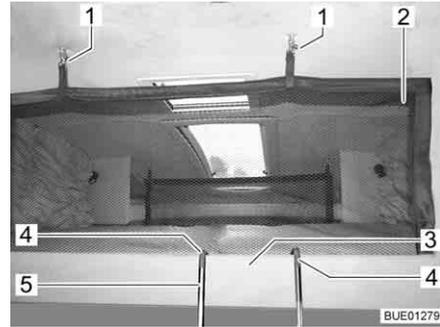
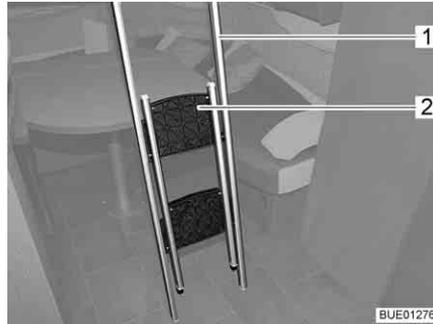
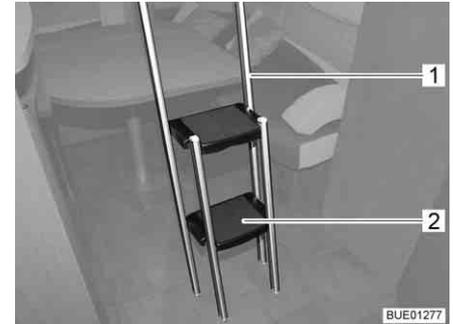

Fig. 99 Pull-down bed complete with applied safety net
Fig. 100 Access ladder, folded in
Fig. 101 Access ladder, folded out
Safety net The safety net (Fig. 99,2) and the retaining belts are located underneath the mattress in the pull-down bed. Only use the safety net if persons are already in the pull-down bed.
Setting up: ■ Attach the retaining belts (Fig. 99,1) to the hooks on the ceiling.
Attaching: ■ Hook access ladder (Fig. 99,5) to the pull-down bed by attaching the two hooks (Fig. 99,4) in the holding bar (Fig. 99,3).
■ Grasp the upper edge of the folded-up part (Fig. 100,2) of the access ladder (Fig. 100,1) and unfold it so that all four feet are securely on the ground (Fig. 101).
Storing away: ■ Fold in steps (Fig. 101,2).
■ Hang the access ladder (Fig. 101,1) from the holding bar (Fig. 99,3) on the pull-down bed.